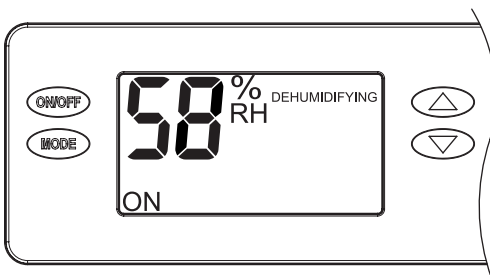

Figure 4: Dehumidifying
- If the Relative Humidity (RH) is above the setting, the compressor turns on to dehumidify the space. The word DEHUMIDIFYING appears when the compressor is turned on (*see Figure 4*).